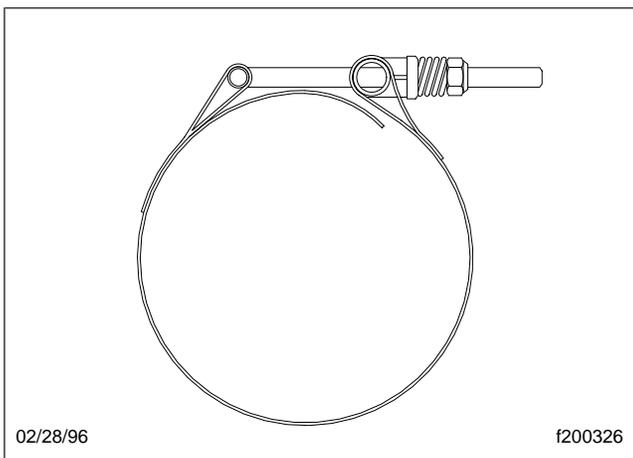
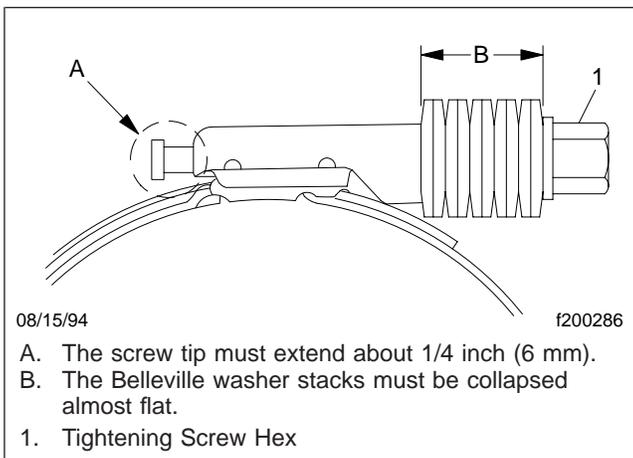

Fig. 1, T-Bolt Type Hose Clamp
Fig. 2, Breeze Constant-Torque Hose Clamp Installation
- Connect the hoses. The hose clamps can be either T-bolt clamps (Fig. 1) or Breeze Constant-Torque clamps (Fig. 2).